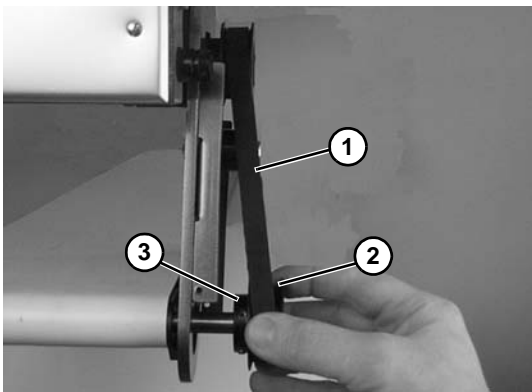

Figure 29
3. Remove timing belt (**Figure 29, item 1**).
*If timing belt does not slide over drive pulley flange (**Figure 29, item 2**), loosen driven pulley set screws (**Figure 29, item 3**) and remove pulley with belt (**Figure 29, item 1**). For re-installation, see steps 6 through 9 on page 9.*